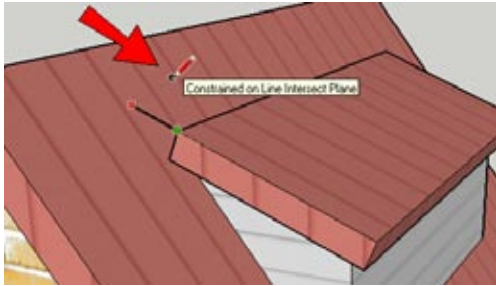

Figure 5-32
10. Press and hold Shift to lock the line to the direction of the side edge, and click the main roof face (Figure 5-32).